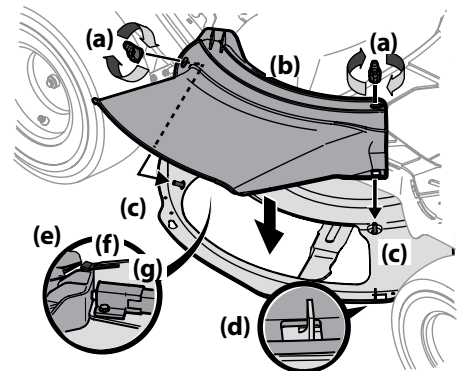

Figure 2-9
- Remove the wing knobs (a) installed on the mowing deck and retain for later installation. See Figure 2-9.
2. Install the deck chute (b) into the deck discharge opening on the deck. The rear of the chute (b) should be under the tab (f) on the rear deck bracket (g). The studs (c) on the deck surface will fit through the holes on the upper portion of the deck chute (b). The small tab (d) on the deck lip area will fit through the square cutout on the lower portion of the deck chute (b). See Figure 2-9.
3. Secure the deck chute (b) by tightening the wing knobs (a) removed in step 1. See Figure 2-9.